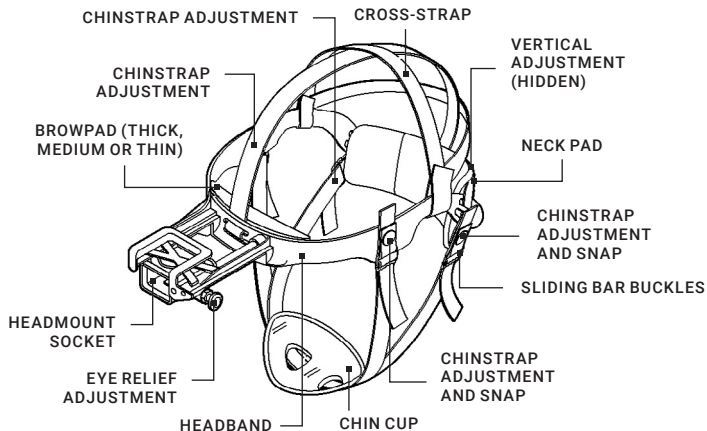

FIGURE 2-3. PVS-14 HEADMOUNT ADJUSTMENTS
1. Before putting the head mount on, loosen the four ends of the chin strap (approximately two inches from the sliding bar buckles; see Figure 2-3).
If the head mount is too loose, remove the attached thin brow pad (Figure 2-3) and replace it with either the medium or thick brow pad (these are stored in the carrying case). Refer to Paragraph 3.1.2 for removal and replacement of the brow pads.
2. Snap the front and rear clasps into place (Figure 2-3).
3. Using both hands, grab the neck pad (Figure 2-3) and pull the harness over your head, sliding the neck pad down over the back of your neck.